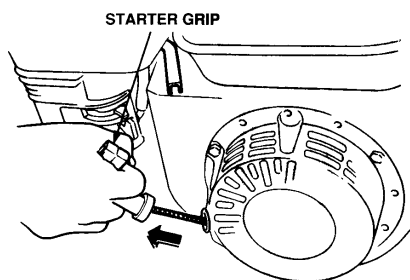

Figure 11. Starter Grip
6. Grasp the starter grip (Figure 11) and slowly pull it out. The resistance becomes the hardest at a certain position, corresponding to the compression point. Pull the starter grip briskly and smoothly for starting.